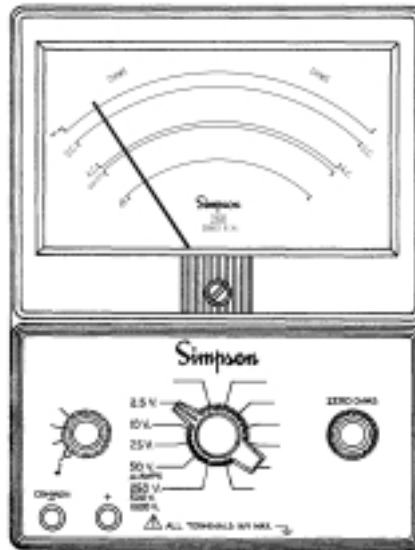

Figure 4-13. Jacks and Switch Positions for Continuity Tests
- Set the FUNCTION switch to the "Ω." Insert the black test lead into the COMMON (-) and the red test lead into the (+) jacks, (Figure 4-13).